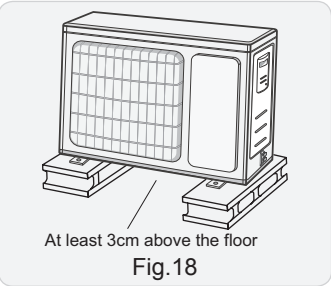

Fig.18
- (1) Take sufficient protective measures when installing the outdoor unit.
- (2) Make sure the support can withstand at least four times the unit weight.
- (3) The outdoor unit should be installed at least 3cm above the floor in order to install drain joint.(As show in Fig.18)
(4) For the unit with cooling capacity of 2300W~5000W, 6 expansion screws are needed; for the unit with cooling capacity of 6000W~8000W, 8 expansion screws are needed; for the unit with cooling capacity of 10000W~16000W, 10 expansion screws are needed.